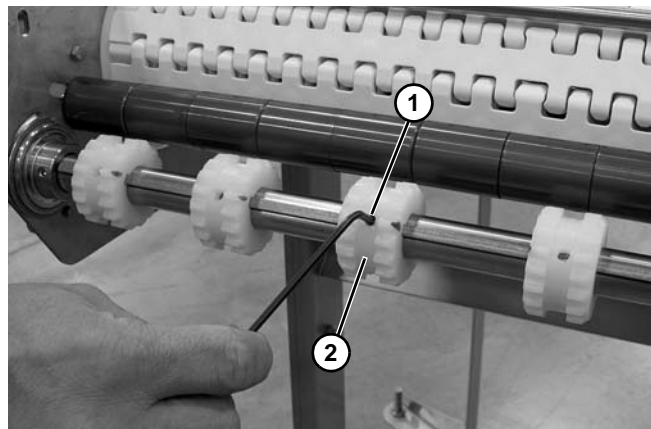

Figure 70
14. Loosen set screw (**Figure 70, item 1**) on drive sprocket (**Figure 70, item 2**).